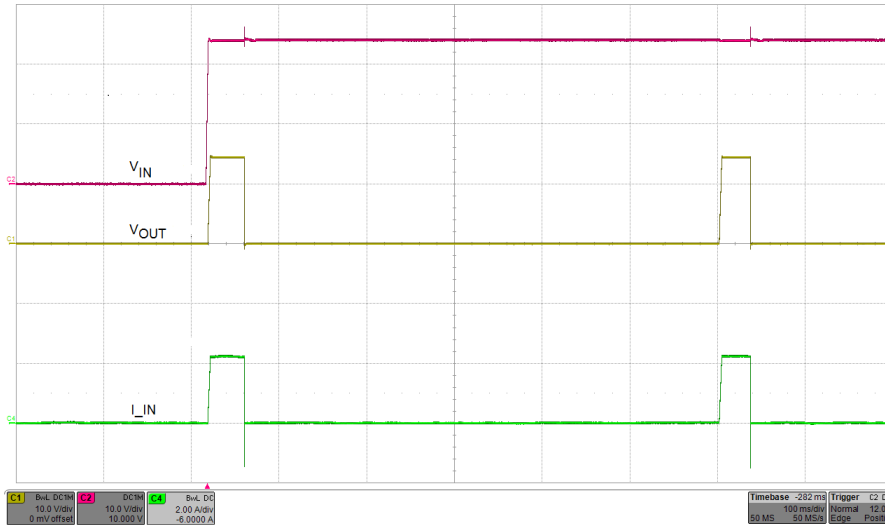

Figure 4-3. J5/J12 = 2-3 Position, Current Limit (2.23 A), Auto-Retry Mode
7. Enable the power supply and verify the current limit magnitude and auto-retry fault response waveform as shown in Figure 4-3.